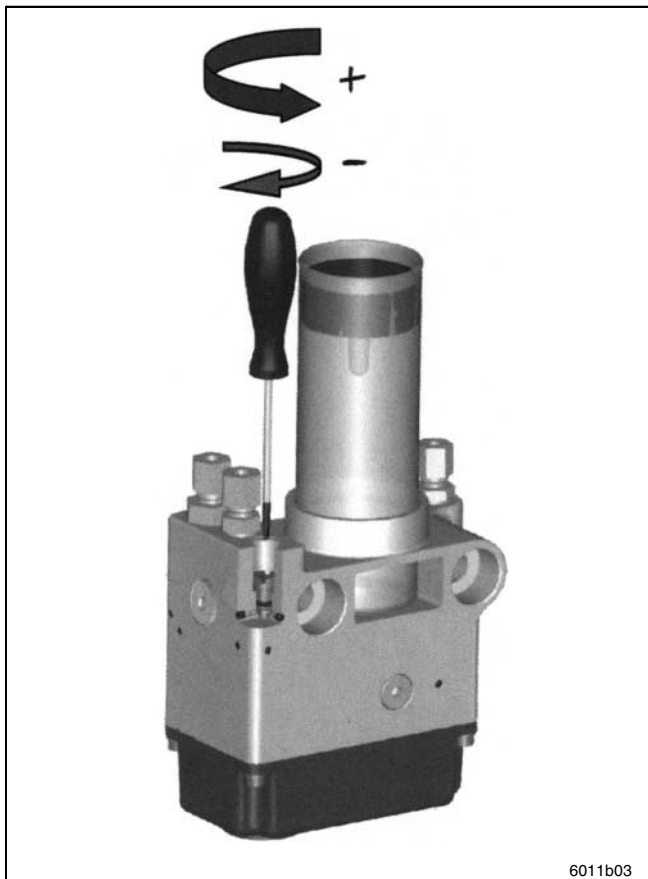

Fig. 3 Throttle Valve Adjustment
- continuously delivers lubricant to the lubrication point while the hydraulic unit is in operation and stops when the hydraulic flow stops. The lubricant quantity is adjustable via the regulating throttle valve (see Fig. 3 and 13)
- turning anticlockwise = more lubricant (see Fig. 3 and the flow rate diagram on page 14)